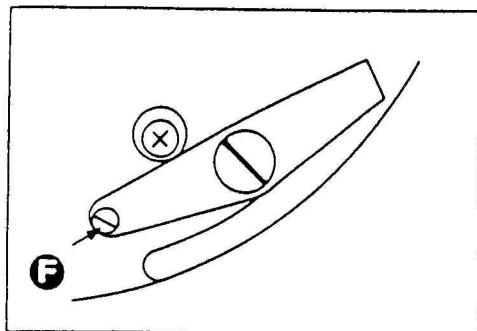

Fig.3
Note : 2) Put the eccentric pin (F) to the position as shown in the illustration and fix up with the adhesive (Prio Bond). (See Fig. 3.)